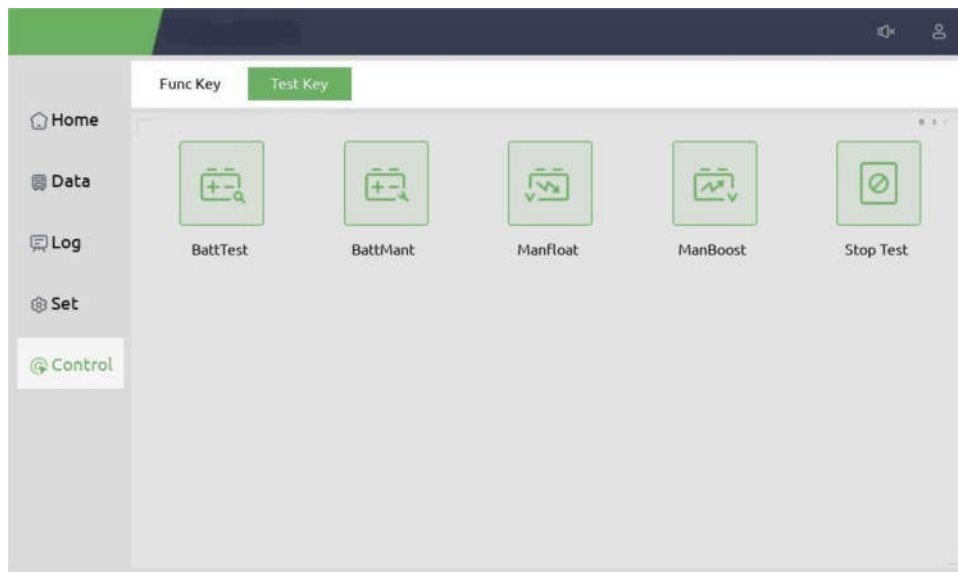

Figure 5-2 Battery maintenance
1) Manual discharging test. Enter the "Control" menu, as is shown in Figure 5-2 and touch